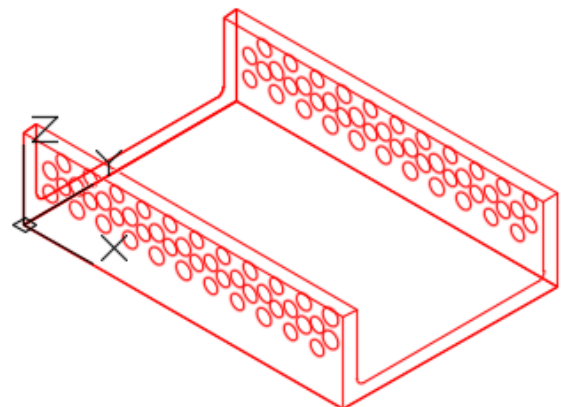

Figure Step 8A
Step 8 Ensure that the current UCS is set to the Front and enter the 3DARRAY command, as shown below, to array the holes. Your finished drawing should appear as shown. (Figure Step 8A and 8B)